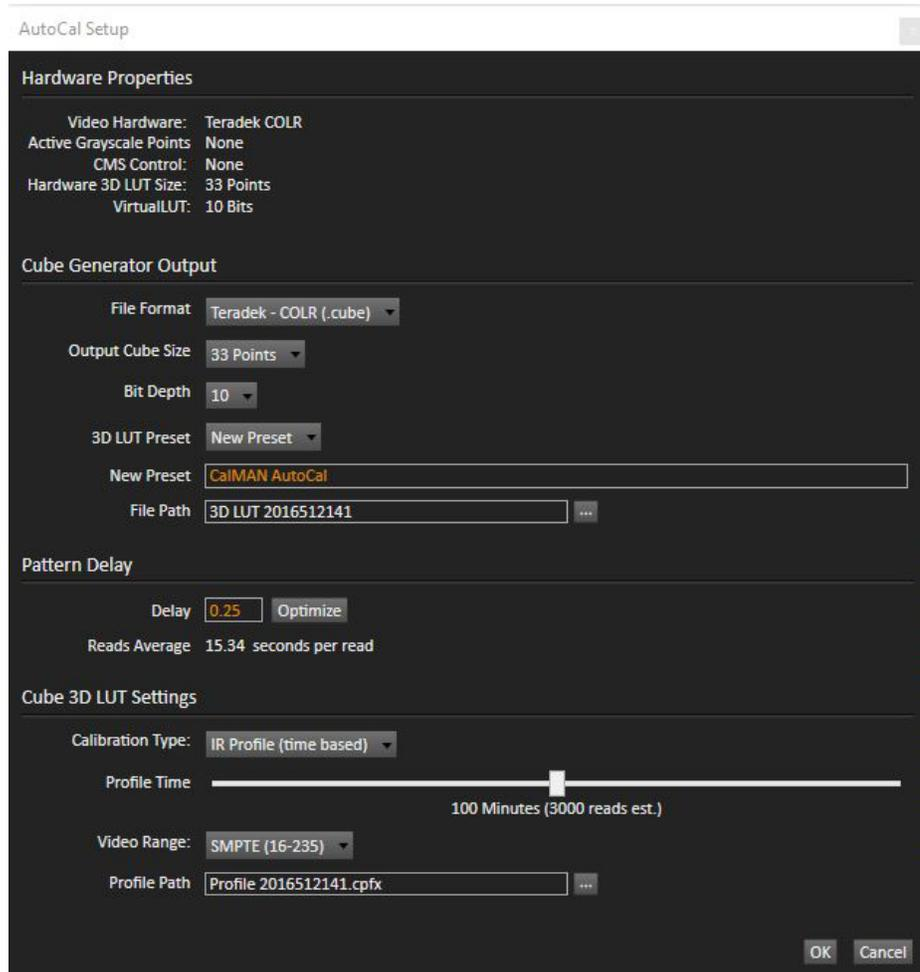

Figure 6. CalMAN AutoCal Setup dialog, for selecting 3D LUT creation options.
1. On the *3D Cube LUT* page, click the *AutoCal* button (rotating arrows) at the right end of the meter action buttons. The *AutoCal Setup* dialog then appears (Figure 6).